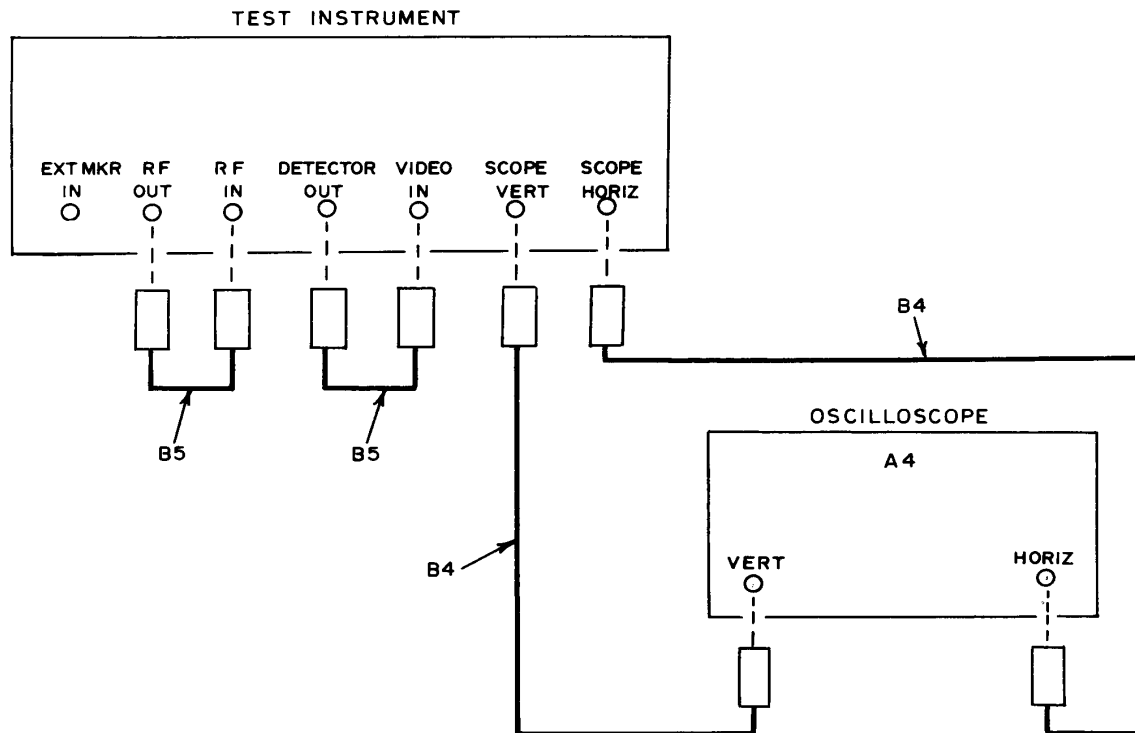

Figure 3. Sweep drive - equipment setup.
- (1) Connect equipment as shown in figure 3.